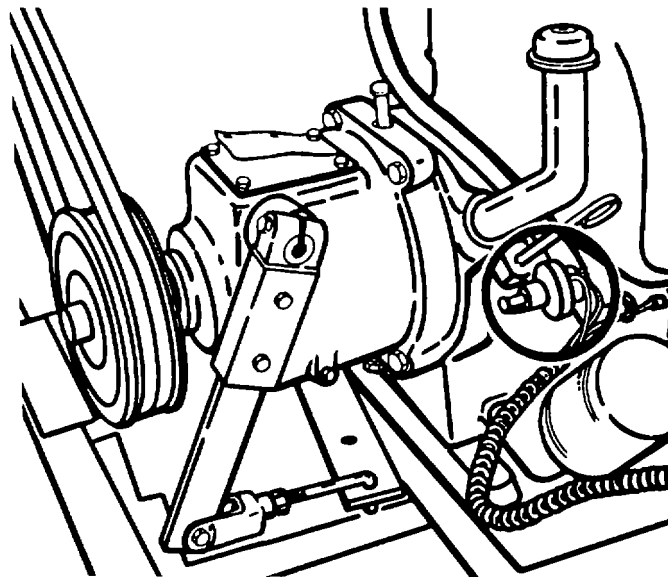

Figure 2-3. Engine Oil Pressure Switch
- e. Pull out spring tab and bend it so that the end fits in the slot in the engine oil pressure switch (Fig. 2-3).
- (1) Pull out and set retainer spring on engine oil pressure switch (See Figure 2-3).
- (2) Switch MASTER SWITCH to ON.
- (3) Switch COMPRESSOR LOAD switch to UNLOAD.
- (4) Switch THROTTLE switch to LOW.
- (5) Pull out CHOKE control as required. The amount of choke depends upon the weather and whether the engine is hot or cold. A warm engine requires little or no choking.